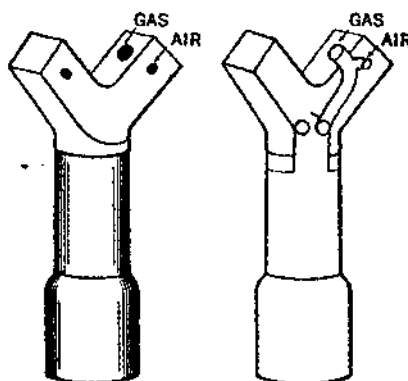

FIG. 20.—Acetylene Burner.
13. Would (a) methyl acetylene or (6) dimethylacetylene react with ammoniacal CuCl? Give reason.
19. What is the function of the air inlet in Fig. 20?